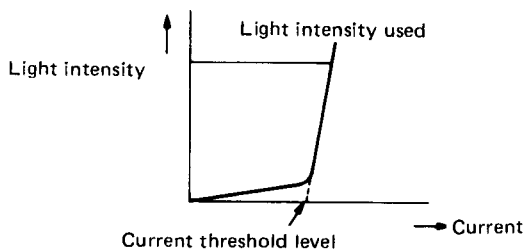

Fig. 19
(1) Semiconductor laser (Fig. 19)
The current – light intensity characteristic became sharp abruptly after passing the threshold value as shown in Fig. 19. The threshold current value is a little different in each laser unit. Therefore, when setting the laser beam amount after replacing the unit mechanism, be sure to turn the control variable resistor R905 fully counterclockwise to set it off once, and then increase the level to the specified value.